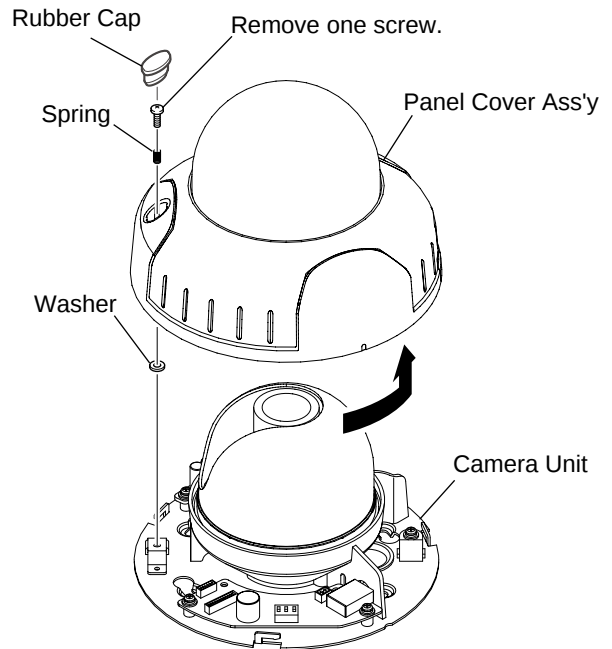

Fig. 2-1
- Referring to Fig. 2-1, remove the Rubber Cap from the Panel Cover Ass'y, and remove one screw that secures the Panel Cover Ass'y.